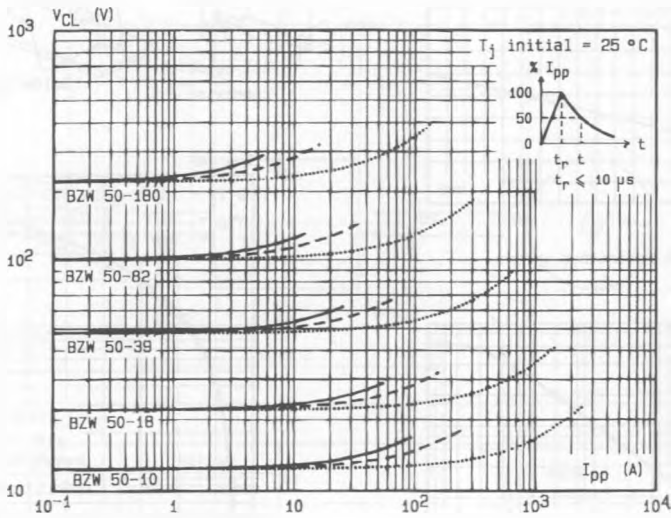

Fig.2 - Clamping voltage versus peak pulse current.
Note : The curves of the figure 2 are specified for a junction temperature of 25 °C before surge. The given results may be extrapolated for other junction temperatures by using the following formula :  $\Delta V (BR) = \alpha_T (V (BR)) \times [T_j - 25] \times V (BR)$